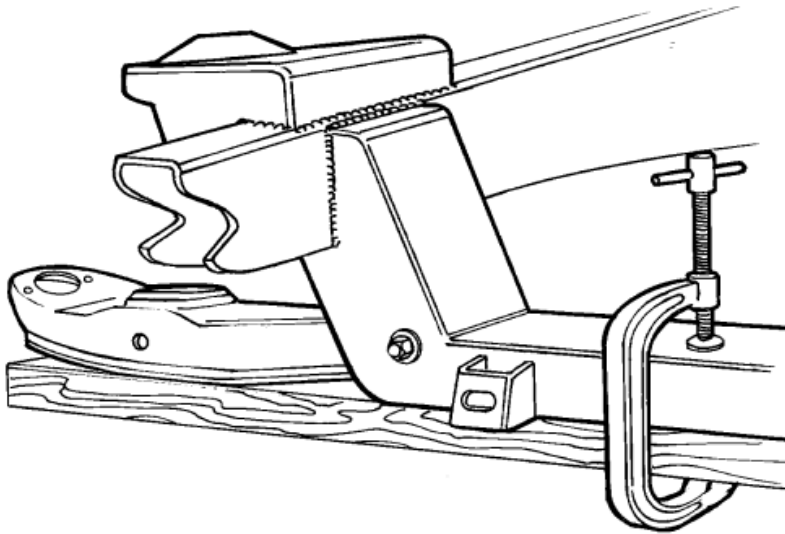

Figure 6- Control Arm Install
8. If you are using factory lower control arms and strut rods you will continue here. Use the lower control arm and strut rod for locating the rear strut rod supports and gussets. Using a 2 x 4 and a C-clamp, install the control arm as shown in **Figure 6**.